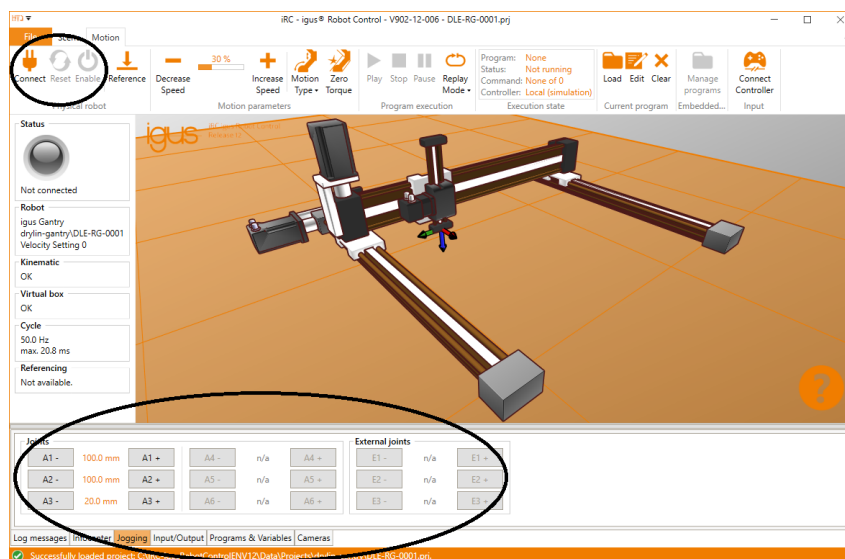

Figure 5: Jog Commands
3. You can now activate the robot by pressing the following buttons in the given order (see also Fig. 5):
5. You can now move the robot's joints using the buttons on the "Jogging" tab (see Fig. 5).